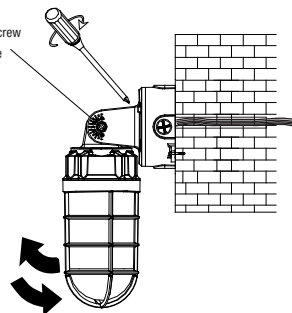

Fig. 20
9. Install the luminaire on the outlet box. Lock the outlet box cover with the four screws and four tooth lock washers (Fig. 20).